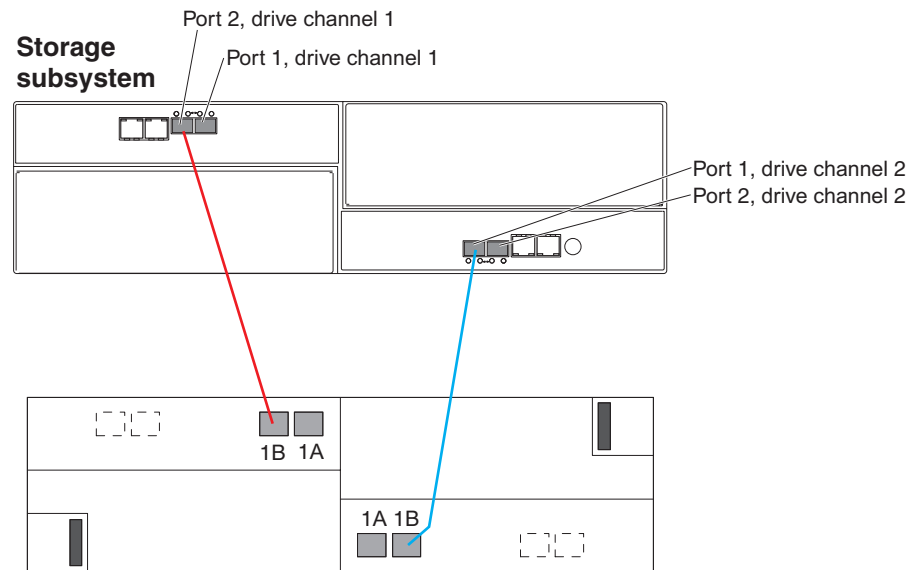

Figure 36. Cabling for one DS3950 and one storage expansion enclosure
If you are cabling one DS3950 storage subsystem to one storage expansion enclosure, Figure 36 shows the correct cabling topology.
**Note:** Figure 36 illustrates the drive channel connections between the DS3950 and the storage expansion enclosures. Do not use Figure 36 as the cabling diagram. Follow the instructions in “DS3950 storage subsystem and supported storage expansion enclosure drive cabling schemes” on page 67 for specific cabling instructions.